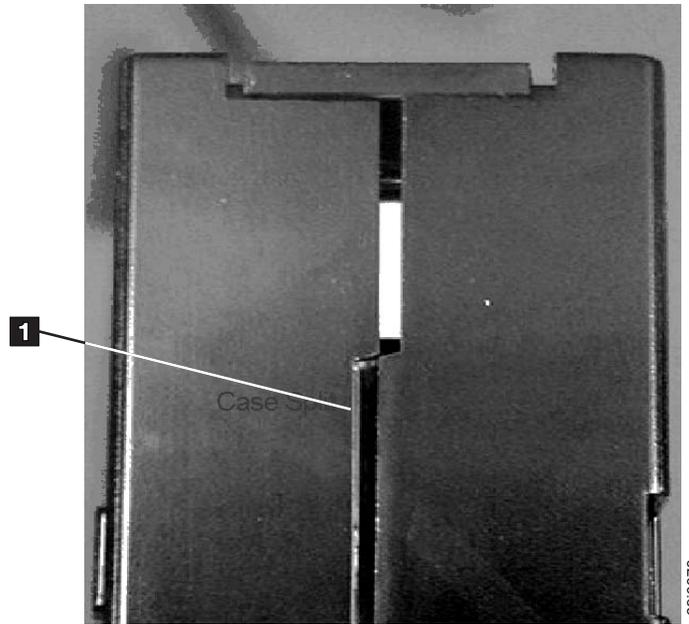
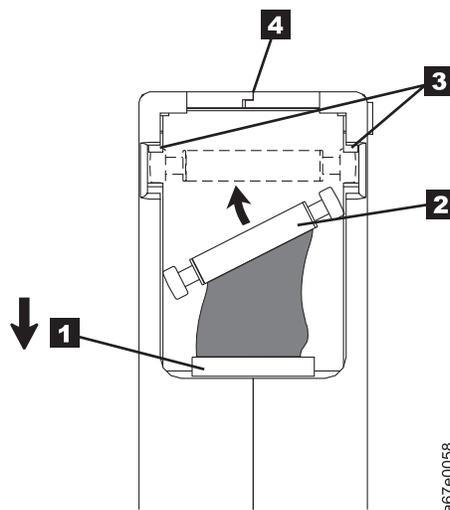

Figure 6-7. Checking for gaps in the seams of a cartridge
Figure 6-9. Placing the dislodged leader pin into the correct position. The cartridge door is open to show the leader pin.
- Inspect the rear of the cartridge (the part that loads first into the tape load compartment) and ensure that there are no gaps in the seam of the cartridge case (see **1** in Figure 6-7 on page 6-11 and **4** in Figure 6-9 on page 6-13). If there are gaps in the seam (see Figure 6-7 on page 6-11), the leader pin might be dislodged. Go to “Repositioning or reattaching a leader pin” on page 6-12.
Split cartridge case. See Figure 6-7.
1. Slide open the cartridge door ( **1** in Figure 6-9) and locate the leader pin **2** (you might need to shake the cartridge gently to roll the pin toward the door).